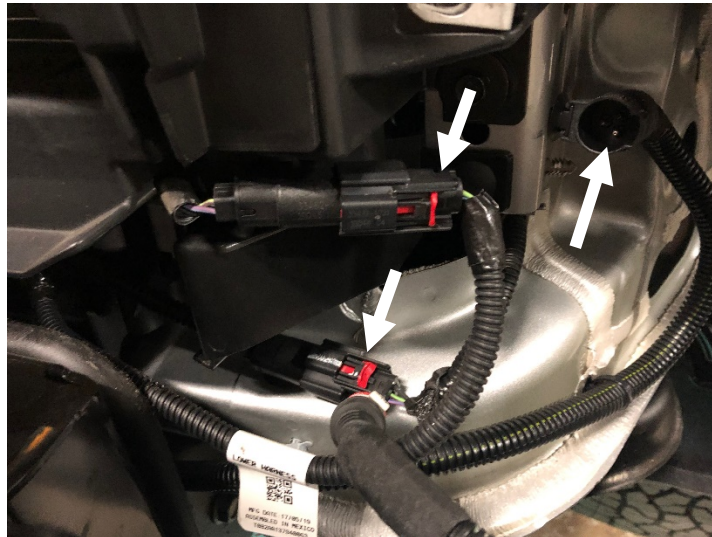

Figure 12
11. As you remove the bumper, unplug the sensor, heater plug, and lower louver harnesses located on the driver side of the truck. (Figure 12)